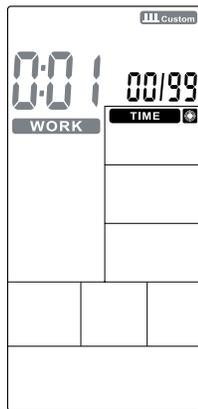

Figure 33
2. The **WORK** icon and 0:01 will flash. Use the “UP” and “DOWN” buttons to set the training time (range: 0:01–9:59). Press “ENTER” to confirm. The buzzer will sound for 1 second, and the **INTERVAL CUSTOM** icon will remain lit (see Figure 33).